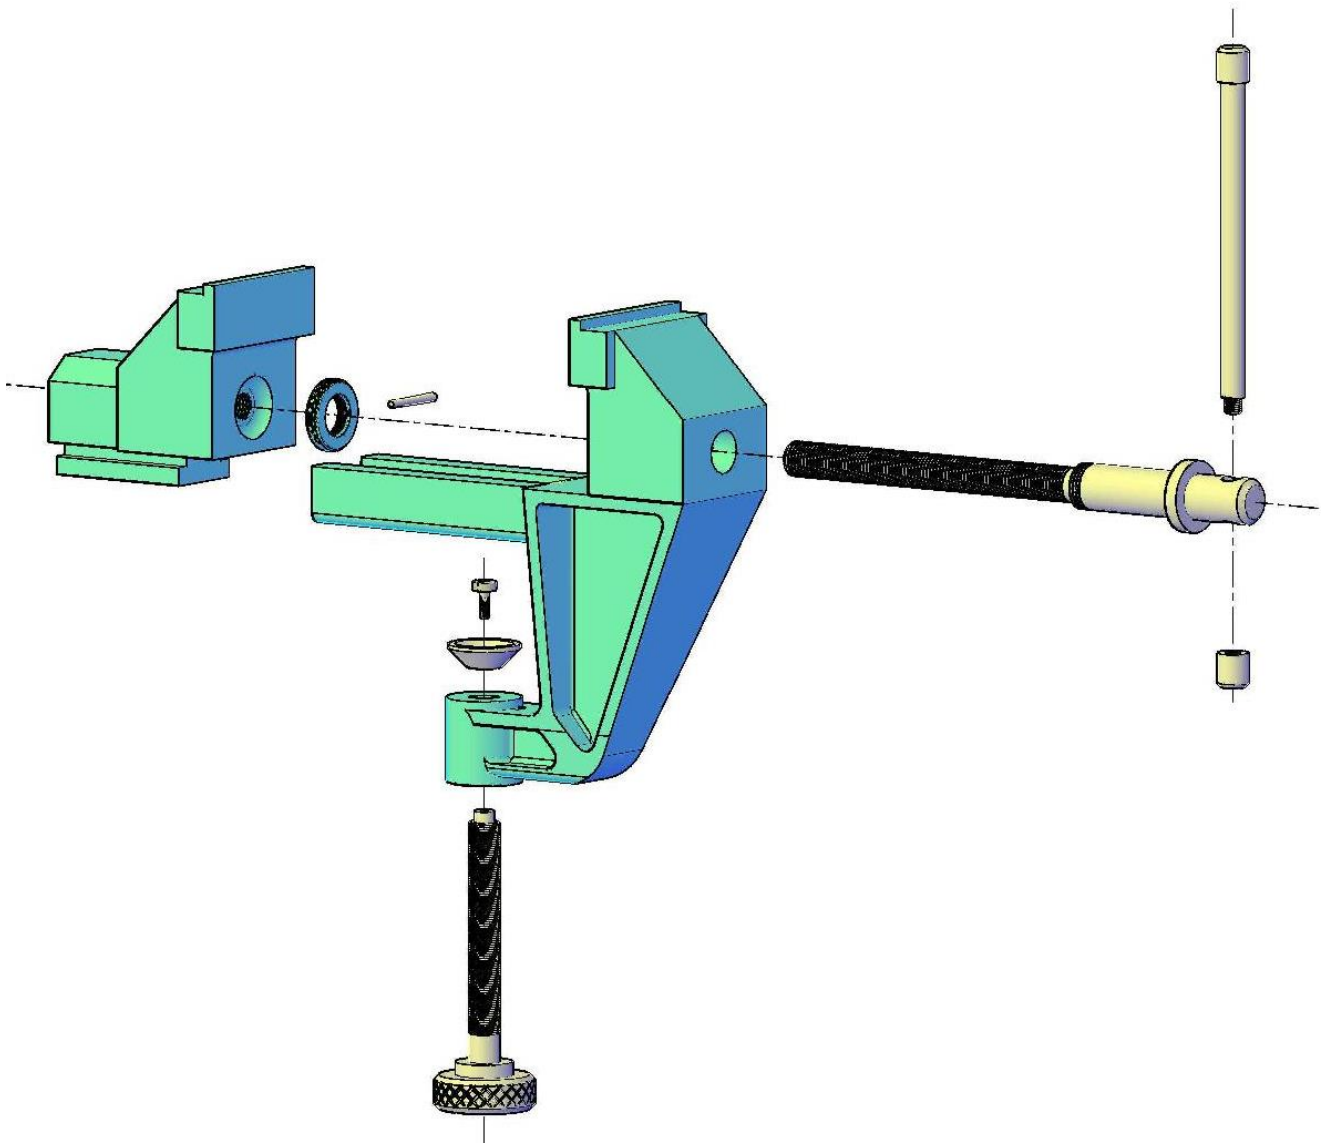

Figure 1a
1. An illustration of a bench vice, with all the components detached from each other, is shown in Figure 1a. The vice may be easily clamped on and off a work bench when required.